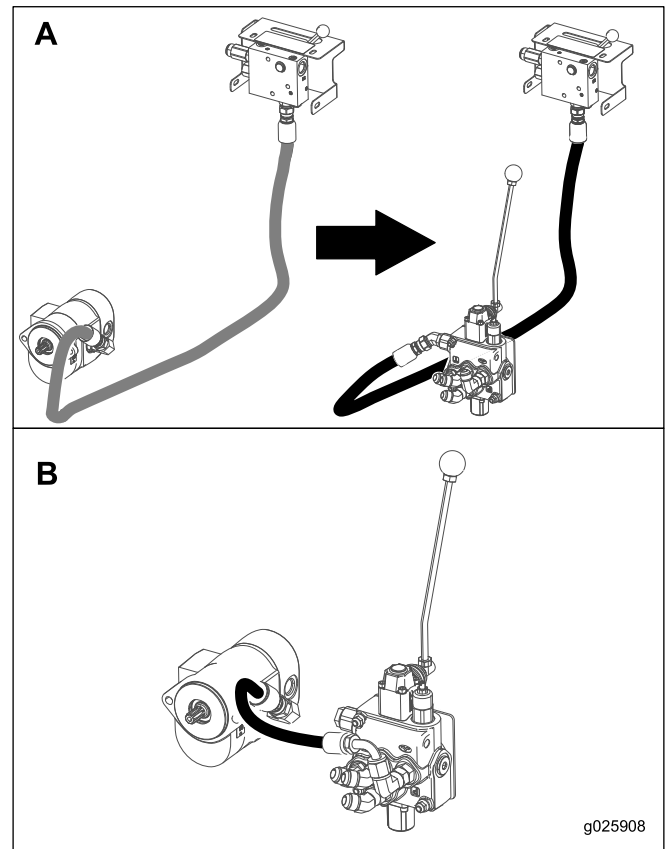

Figure 23
1. Disconnect the hose that is installed on the front section of the hydraulic pump and connect it to the hydra-borer-control valve as shown in Figure 23; box A.
3. Connect the 51 cm hose from the open fitting on the hydraulic pump to the hydra-borer-control valve (Port B) as shown in Figure 23; box B.